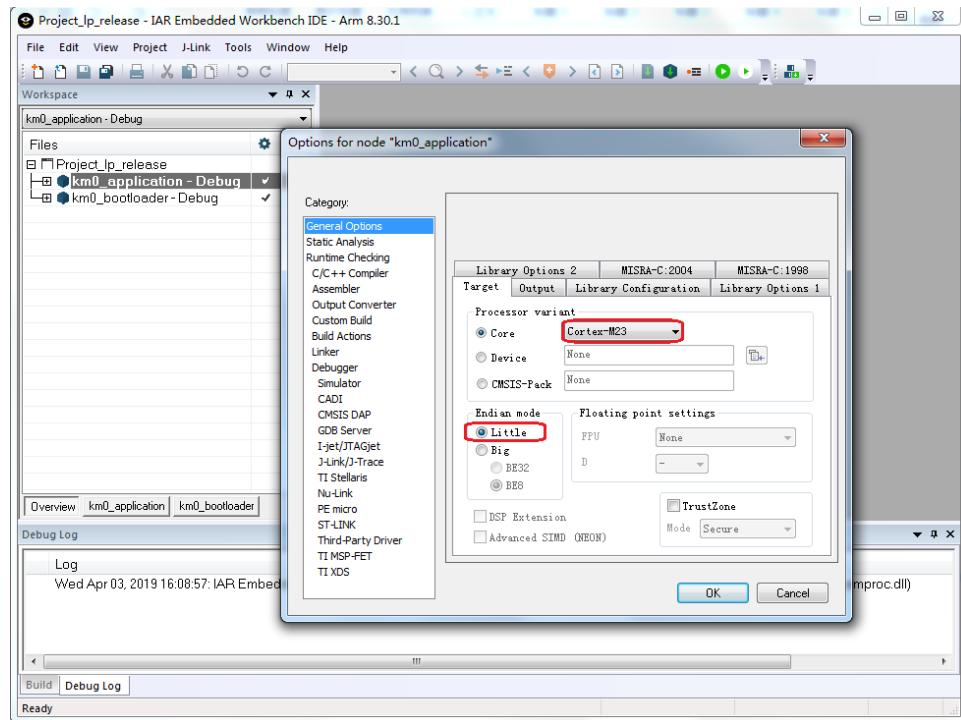

Fig 6-7 KM0 processor options
- (1) Open `project\realtek_amebaD_va0_example\EWARM-RELEASE\Project_ip_release.eww`.
- (2) Make sure km0\_bootloader and km0\_application are in Workspace. Click Project > Options, General Options > Target > Processor Variant > Core, verify the CPU configurations according to Fig 6-7.